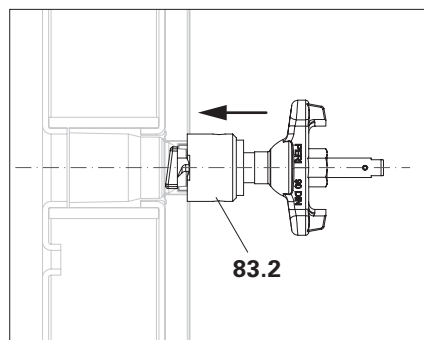

Fig. A21.03d
2. Turn the Extraction Tool MX Sealing (83) onto the Panel MX-2 (5) until the extraction bell (83.2) is in contact. (Fig. A21.03d)